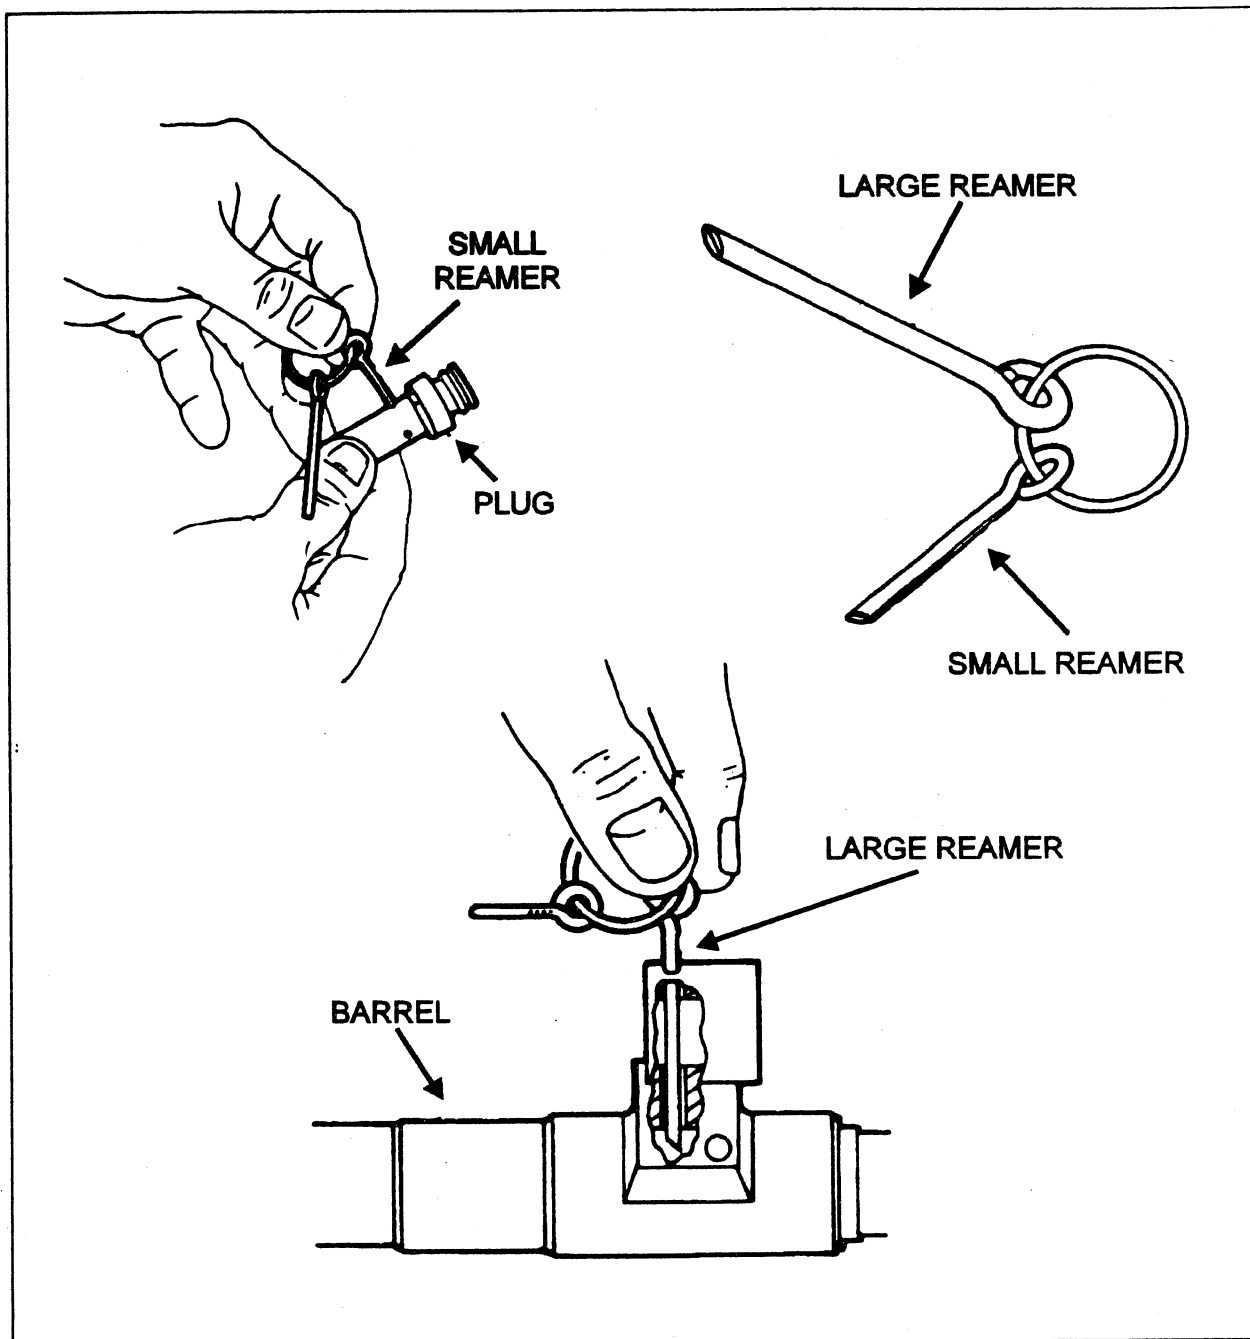

Fig 1-26. Cleaning gas ports.
- (5) To clear the holes of carbon, insert the small reamer into the gas inlet holes on the plug. Now insert the large reamer into the gas port hole in the barrel (see fig 1-26).